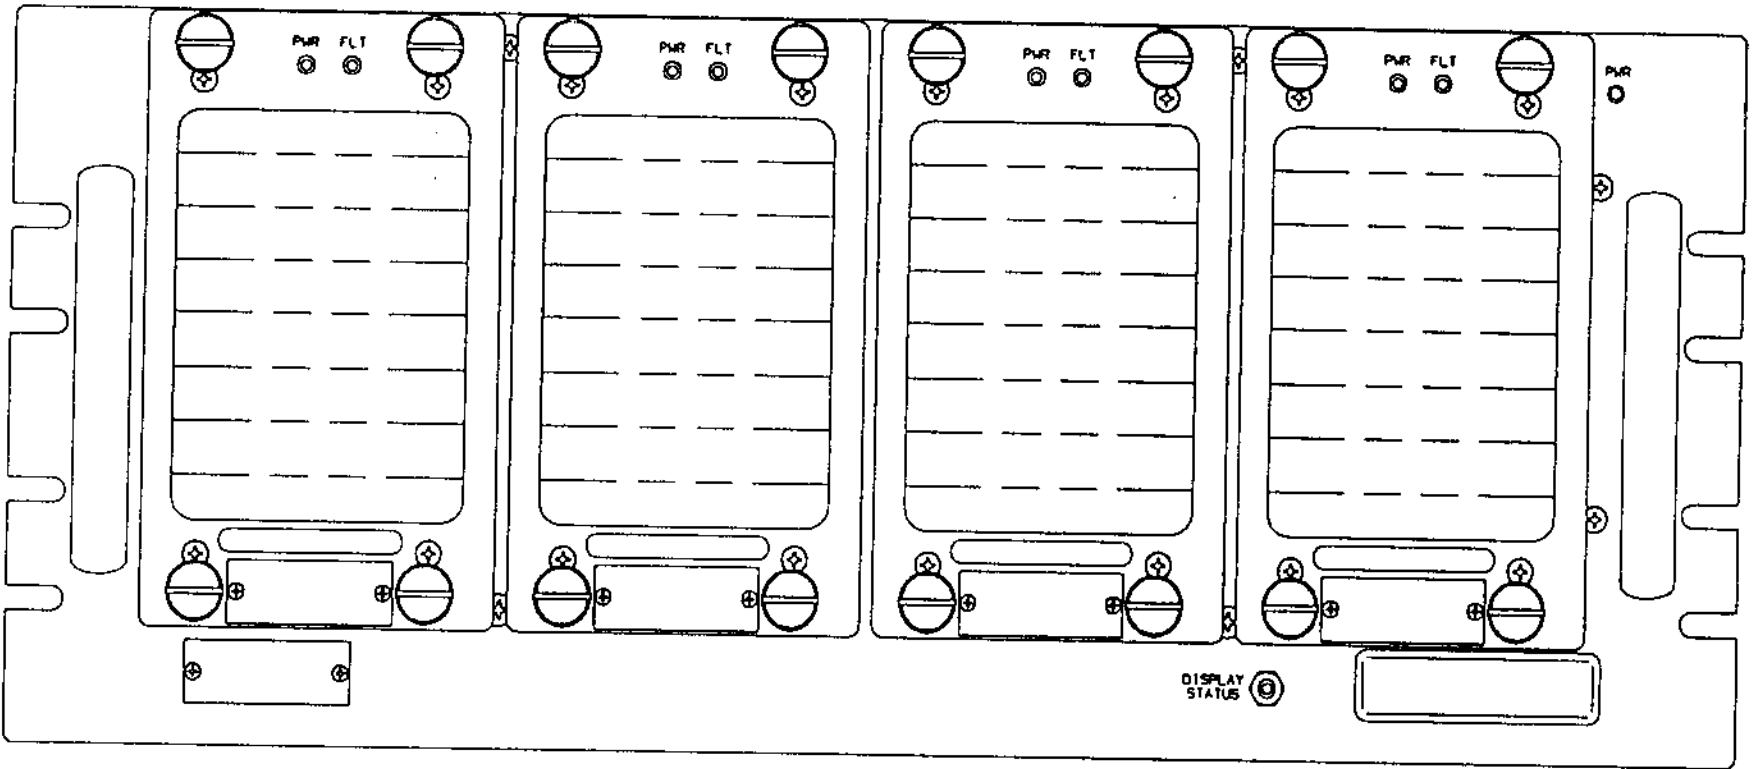

Figure 1-1 PA-5050A Front View.
1-2 EQUIPMENT DESCRIPTION. The PA-5050A linear power amplifier (figure 1-1) is a solid state unit that provides 1 kilowatt power amplification of RF signals between 1.6 and 30 MHz. The unit contains 4 independent power amplifier (PA) modules. If one or more of the PA modules fail, the unit will still operate with reduced power out.